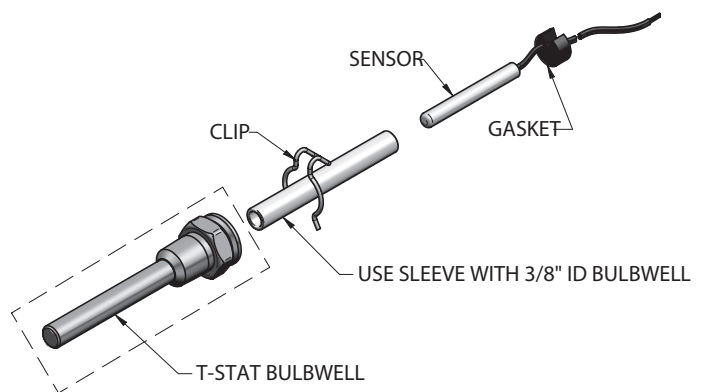

Figure 72. Tank Sensor With Bulbwell
2. Connect low voltage wiring to low voltage connection board as shown in Figure 72 on Page 48 of this manual and the water heater wiring diagram.
1. Connect the tank thermostats (isolated contact only) to the tank thermostat contacts as shown in Figure 72.
4. Once the sensor and remaining components are installed, connect the sensor to the tank sensor contacts as shown in Figure 72.
If dampers need to operate when the water heater fires, they can be controlled by this output. Connect these terminals to a 24 VAC relay coil, which is wired to operate the dampers (Figure 72).
When the operation of the dampers needs to be verified before the water heater fires, remove the jumper wire from these terminals and connect them to the normally open contacts on its proving switch (Figure 72)
If a switch is provided to detect excessive gas pressure, remove the jumper wire from the terminals on the connection board, and then connect them to its normally closed contacts (Figure 72).